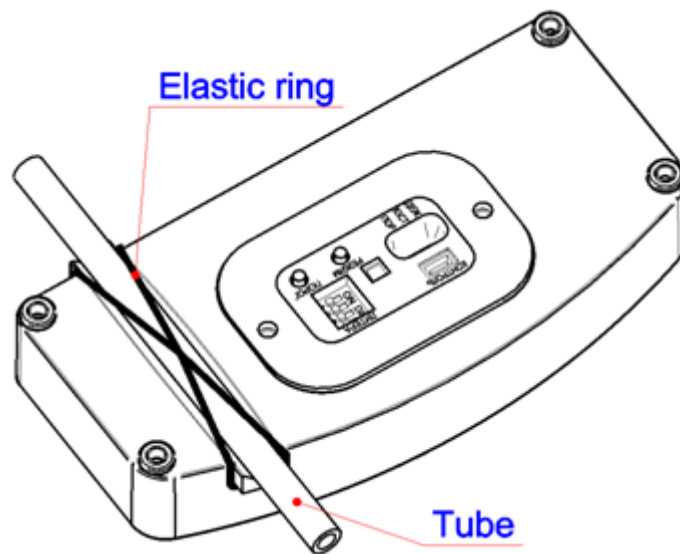

Figure 2.5
*Note – To make the adjustment easier insert the tube into the V-neck and fix it using the elastic ring and the cover margins (Figure 2.5).*